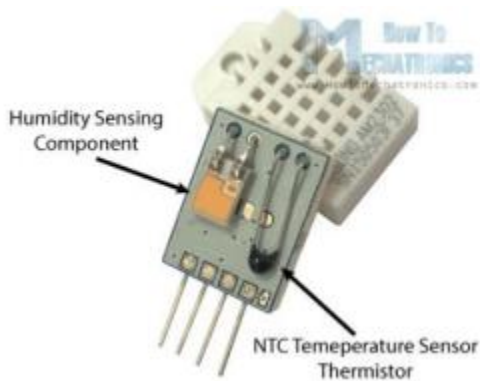

Figure 4: Components integrated in DHT11 [4]
5. Figure 4: Components integrated in DHT11
The sensor includes thermistor and along with thermistor a humidity sensing module and IC is connected. Which is shown below in figure: 4